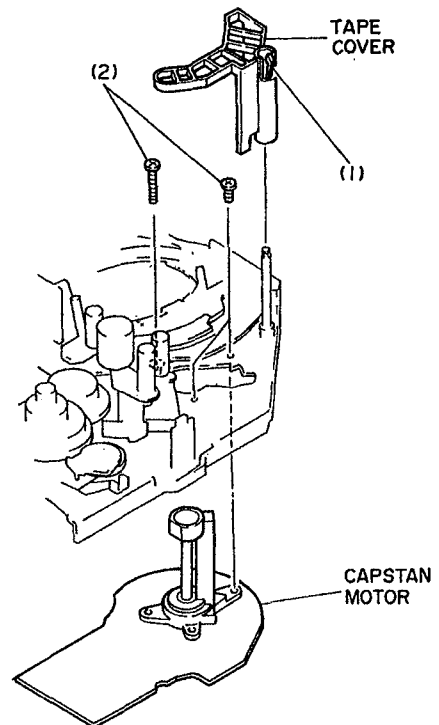

Fig. 2-4
### 2-4. Tape cover, capstan motor bracket, capstan motor (Figs. 2-4, 2-5)
- 1) Release tab (1) and pull out the tape cover from the chassis. (See Fig. 2-4)
- 3) Remove three screws (2) holding the capstan motor. (See Fig. 2-4)
## 2-14. Tension arm, tension band (Fig. 2-4)